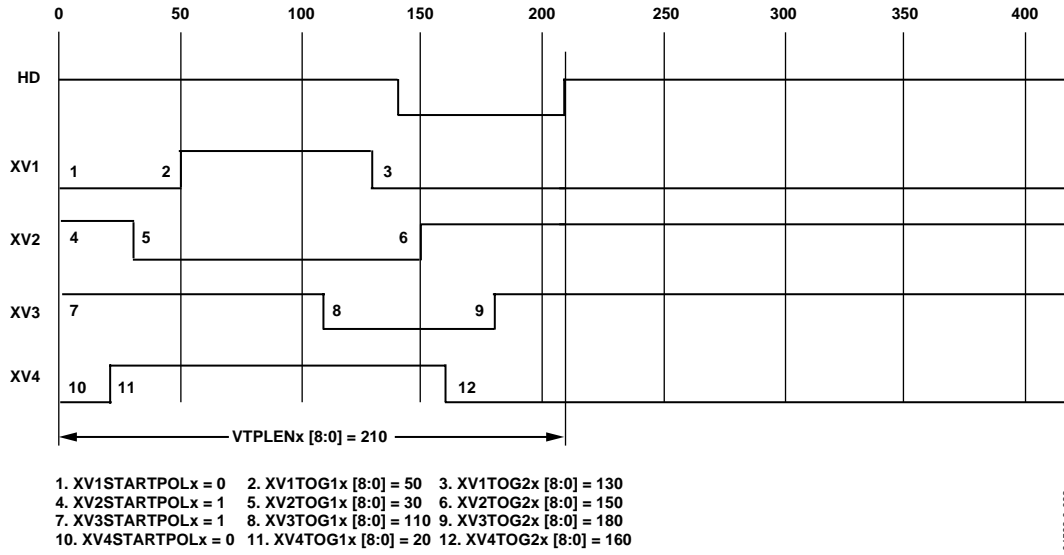
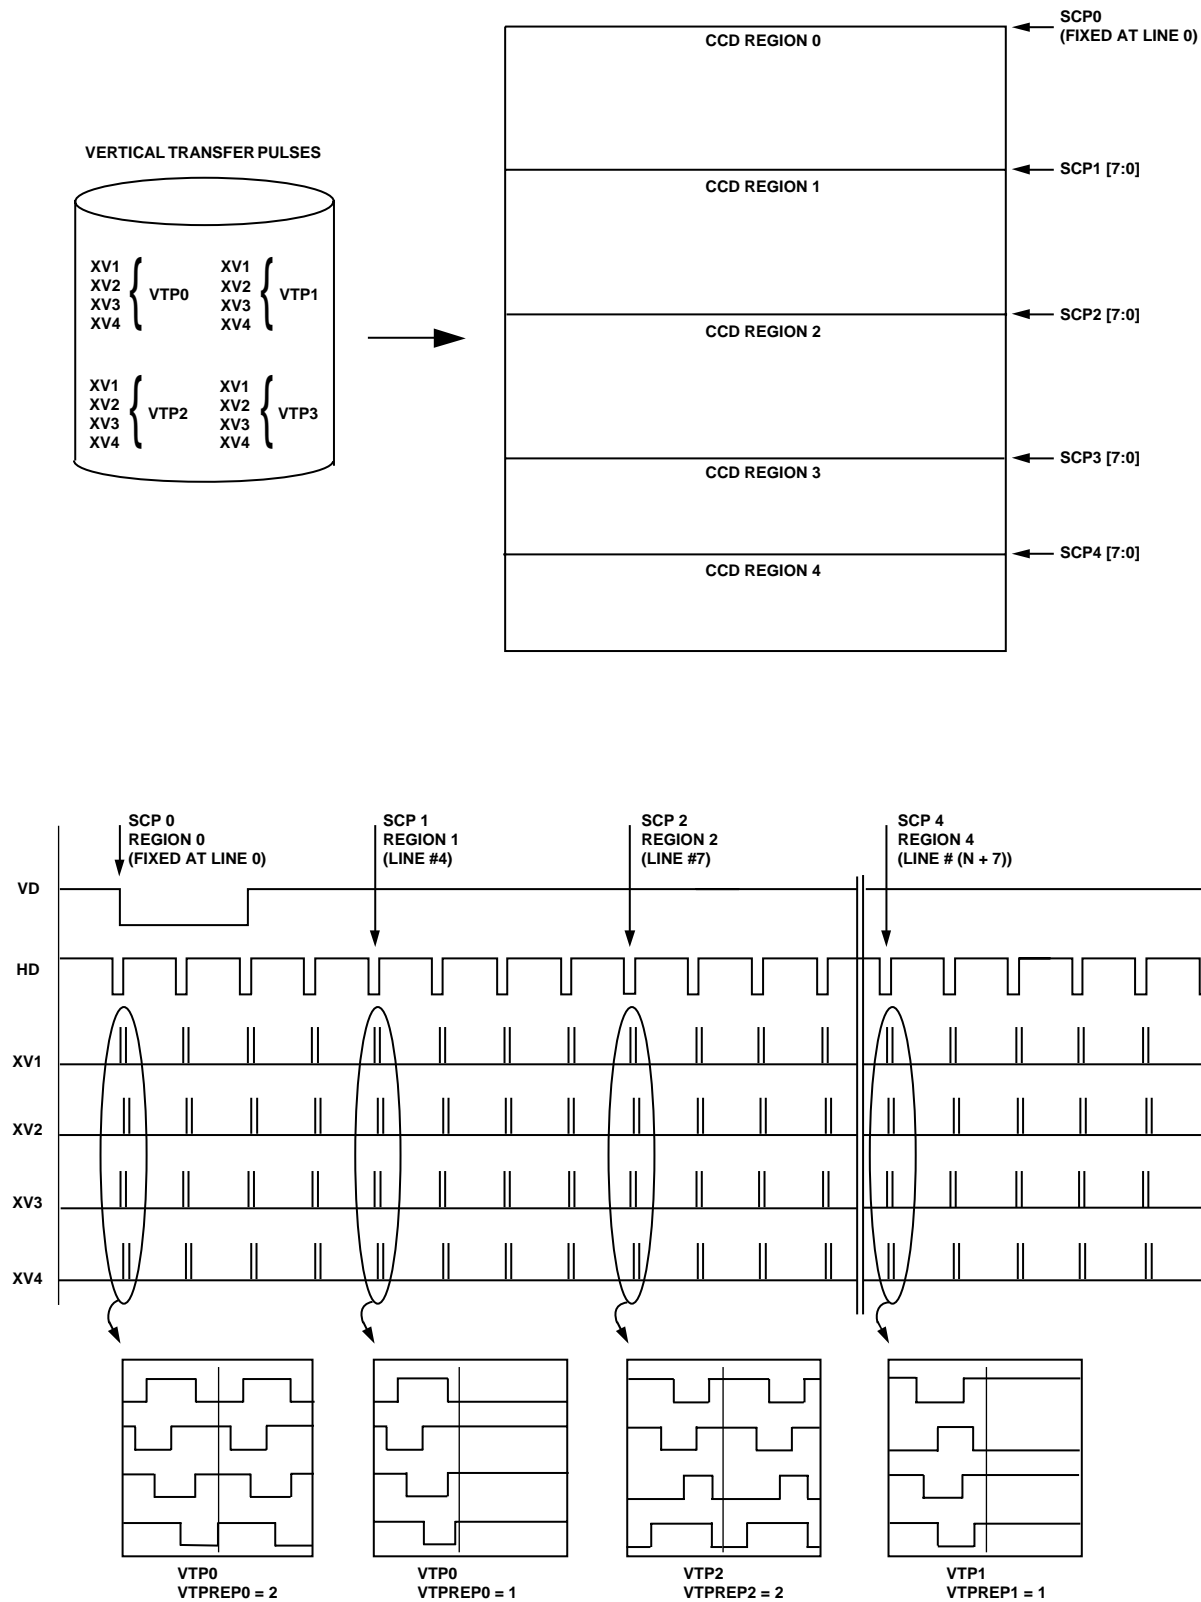

Figure 32. Step 1: Create Individual Vertical Pulses for VTP0, VTP1, VTP2, and VTP3 Patterns.
Figure 34. Steps 3 and 4: An Example of Building an Entire Field Readout by Assigning Sequences to Multiple CCD Regions
Figure 32 through Figure 34 provide an overview of how the vertical timing is generated in four basic steps.
Step 1: Create the individual pulses for patterns VTP0, VTP1, VTP2, and VTP3 (see Figure 32).
The registers shown in Table 22 are used to generate the individual vertical timing pulses, as shown in Figure 32.
Step 3: Output Vertical Sequences into CCD Regions (see Figure 34).
Step 4: Combining CCD Regions (see Figure 34).
The individual CCD regions are combined into a complete field readout by using sequence change position (SCPx) pointers as described in Table 23. Figure 34 shows how each field is divided into multiple regions. This allows the user to change vertical timing during various stages of the image readout. The boundaries of each region are defined by the sequence change position (SCP). Each SCP is a 8-bit value representing the line number boundary region. A total of four SCPs allow up to five different region areas in the field to be defined. The first SCP0 is always hard-coded to line 0, and the remaining four SCPs are register programmable.
The special vertical sweep mode operation is only output in CCD Region 0 and CCD Region 3 (see Figure 34), as shown in Figure 37 and Figure 38. The SVREP_MODE register located at